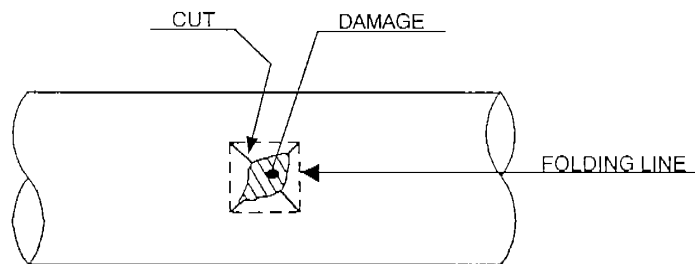

Fig.5 Area of outer cover to be cut
- (b) Cut the outer cover around the damaged area with a knife as shown in Fig.5.
- (c) Fold back the outer cover at the dotted lines shown in Fig. 5 to expose the sponge surface.